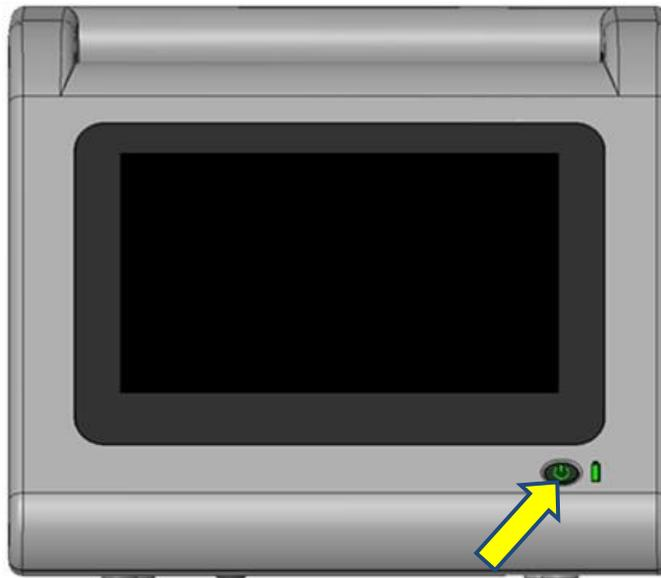

Figure 7: Turning the monitor On
- Press the ON/Off switch on the front panel to turn the monitor “ON” (refer to Figure 7). The ON/Off switch illuminates when the monitor is turned on.
- Press and hold the ON/Off switch on the front panel for two (2) seconds to turn the monitor “Off” (refer to Figure 7).